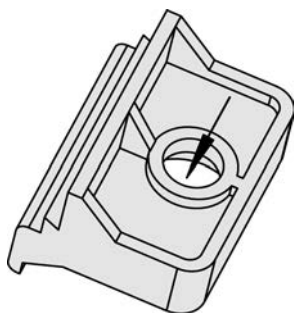

Fig. 12: Insert screws in clamps
3. ➔ Insert the four clamping screws into the clamp inserts from the shown side (Fig. 12; opposite the nut insert) until they are almost flush. Do not completely insert the screws into the clamp inserts.